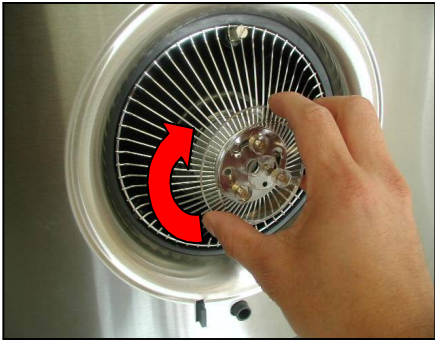

Figure 10
14. Place the oil container (round) into keyhole under each safety screen. Turn clock-wise until firmly in place. Refer to Figure 10.